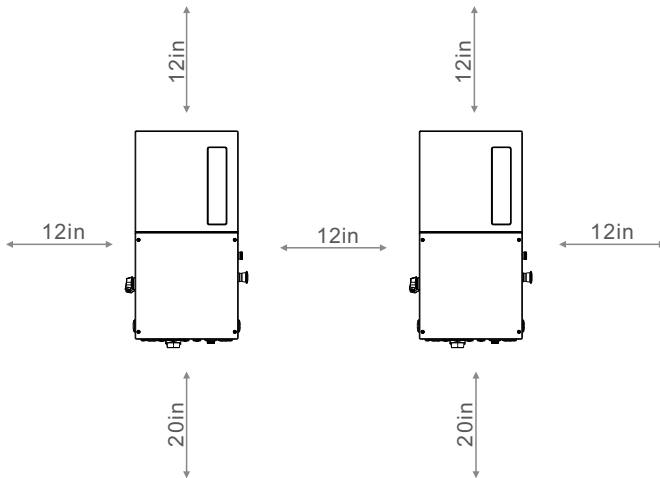

Figure 4.2 Inverter Mounting Clearance
1. According to the figure 4.2, select the mounting height of the bracket and mark the mounting holes. For brick walls, the position of the holes should be suitable for the expansion bolts.